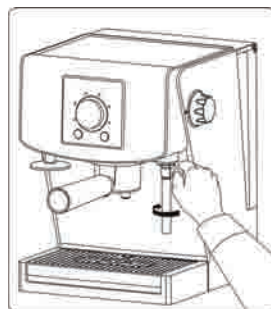

Fig. 9
ATTENTION! Shifting of the steam/boiling water wand (10) has to be conducted with the use of special tip (Fig. 9). The steam/boiling water wand (10) is very hot.